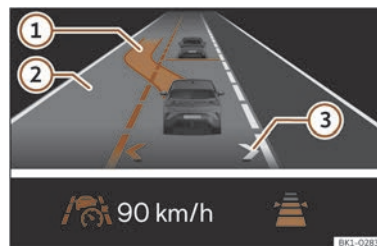

Fig. 133 On the instrument cluster display: lane change assist display (schematic representation).
This activates lane assist. The arrows of your own lane on the instrument cluster display are grey >>> **Fig. 133 ②**
If the system detects no objects in the detection field of the sensor system and an assisted lane change to an adjacent lane is possible, the corresponding lane is shown in the instrument cluster display next to the driver's own lane. The arrow on the corresponding side of the lane is displayed in white >>> **Fig. 133 ②**.